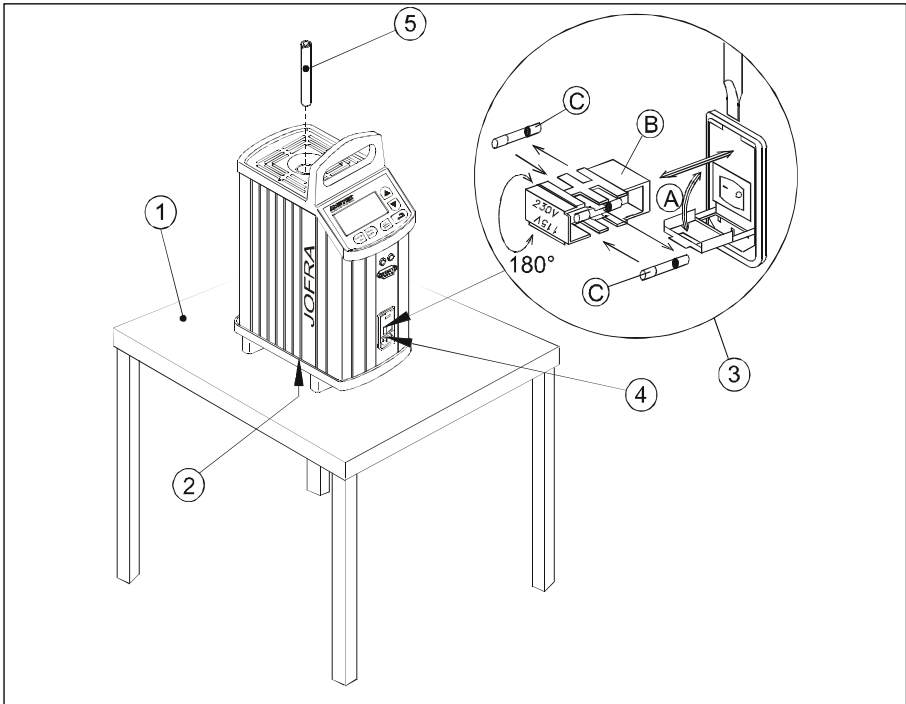

Fig. 1
- ② Ensure a free supply of air to the fan located at the bottom of the instrument.
- ③ Check the voltage of the power control switch (on/off switch (230V/115V)). If the voltage of the power control switch differs from the line voltage, you must adjust the voltage of the power control switch as follows (see Fig. 1):